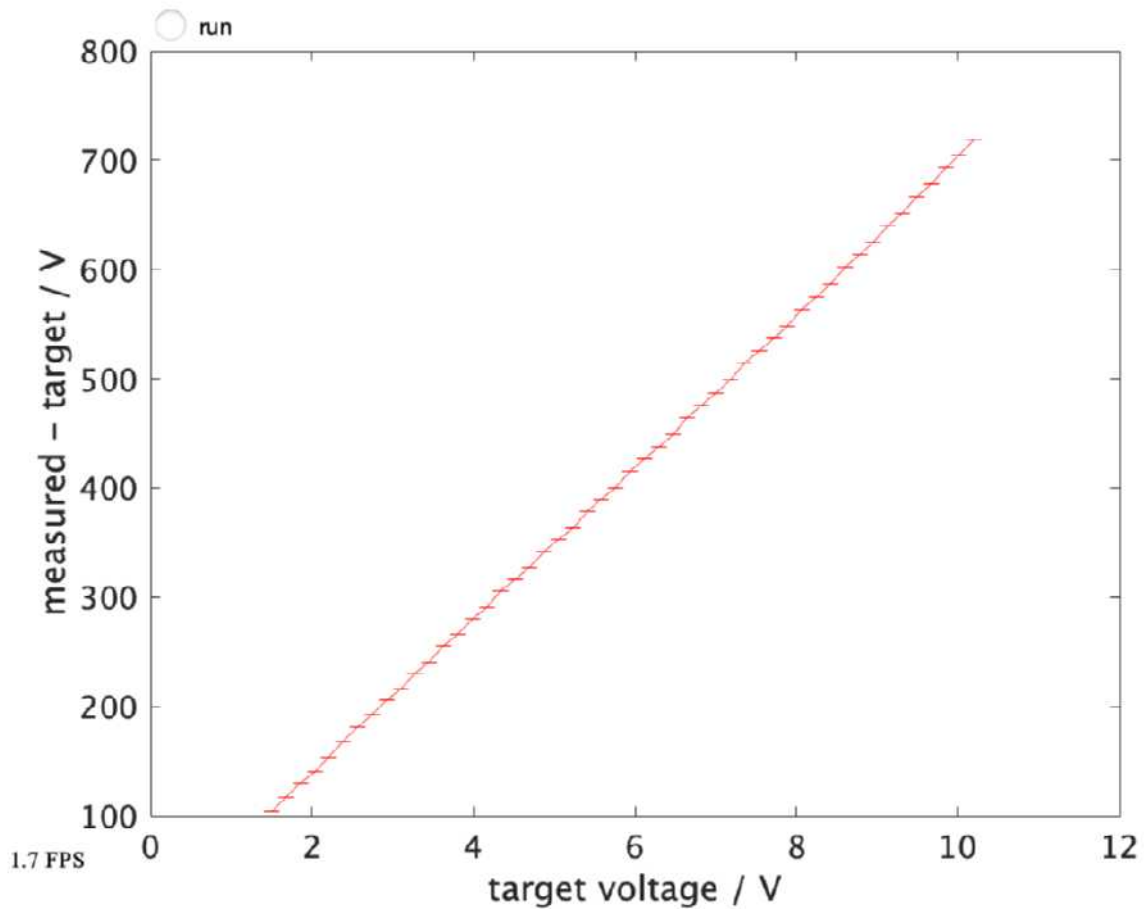

Figure 18. Still bugs ...
2. Understanding a schematic like Fig. 18 without knowing its history, origins, etc. is dauntingly difficult. You have to train yourself to imagine modular boundaries (that you learn to recognize). Just as this sentence would make little sense if read aloud as a sequence of individual letters, looking at the schematic as a hodge-podge of R's, C's, Q's, doesn't make much sense to anyone. The letters are separated by spaces, and good schematics likewise have cues to help you parse the modules. But practice and memorization play key roles in recognizing filters, followers, mirrors, voltage dividers, etc. Good news is that there aren't *that many* building block circuits that are repeated over and over.